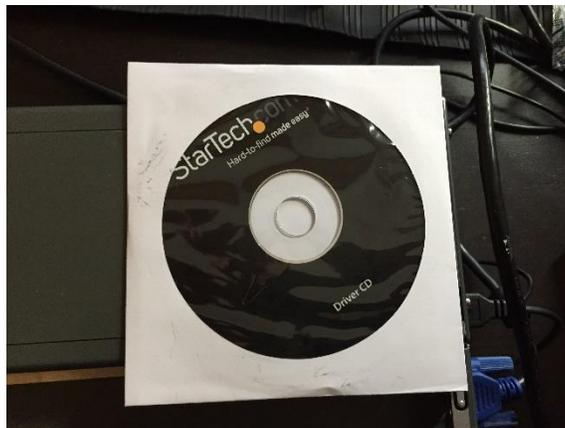

Figure 9: Driver that comes with the package.
1. Once software installed (refer to previous section on this manual for software installation), you will find an icon of the software on your desktop. Refer to Figure 9. Click on it.